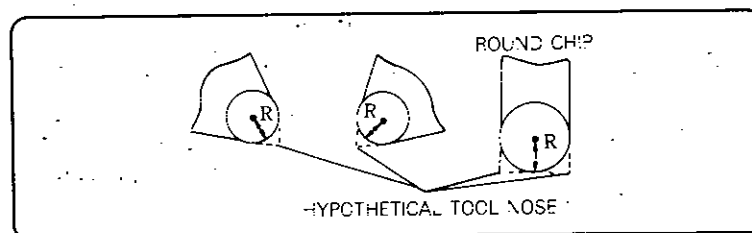

Fig. 2.12.6 Setting the Nose R Amount and Hypothetical Tool Nose
- 1 The nose R amount is set by the radius of the tool nose circle, without sign. (Fig. 2.12.6).